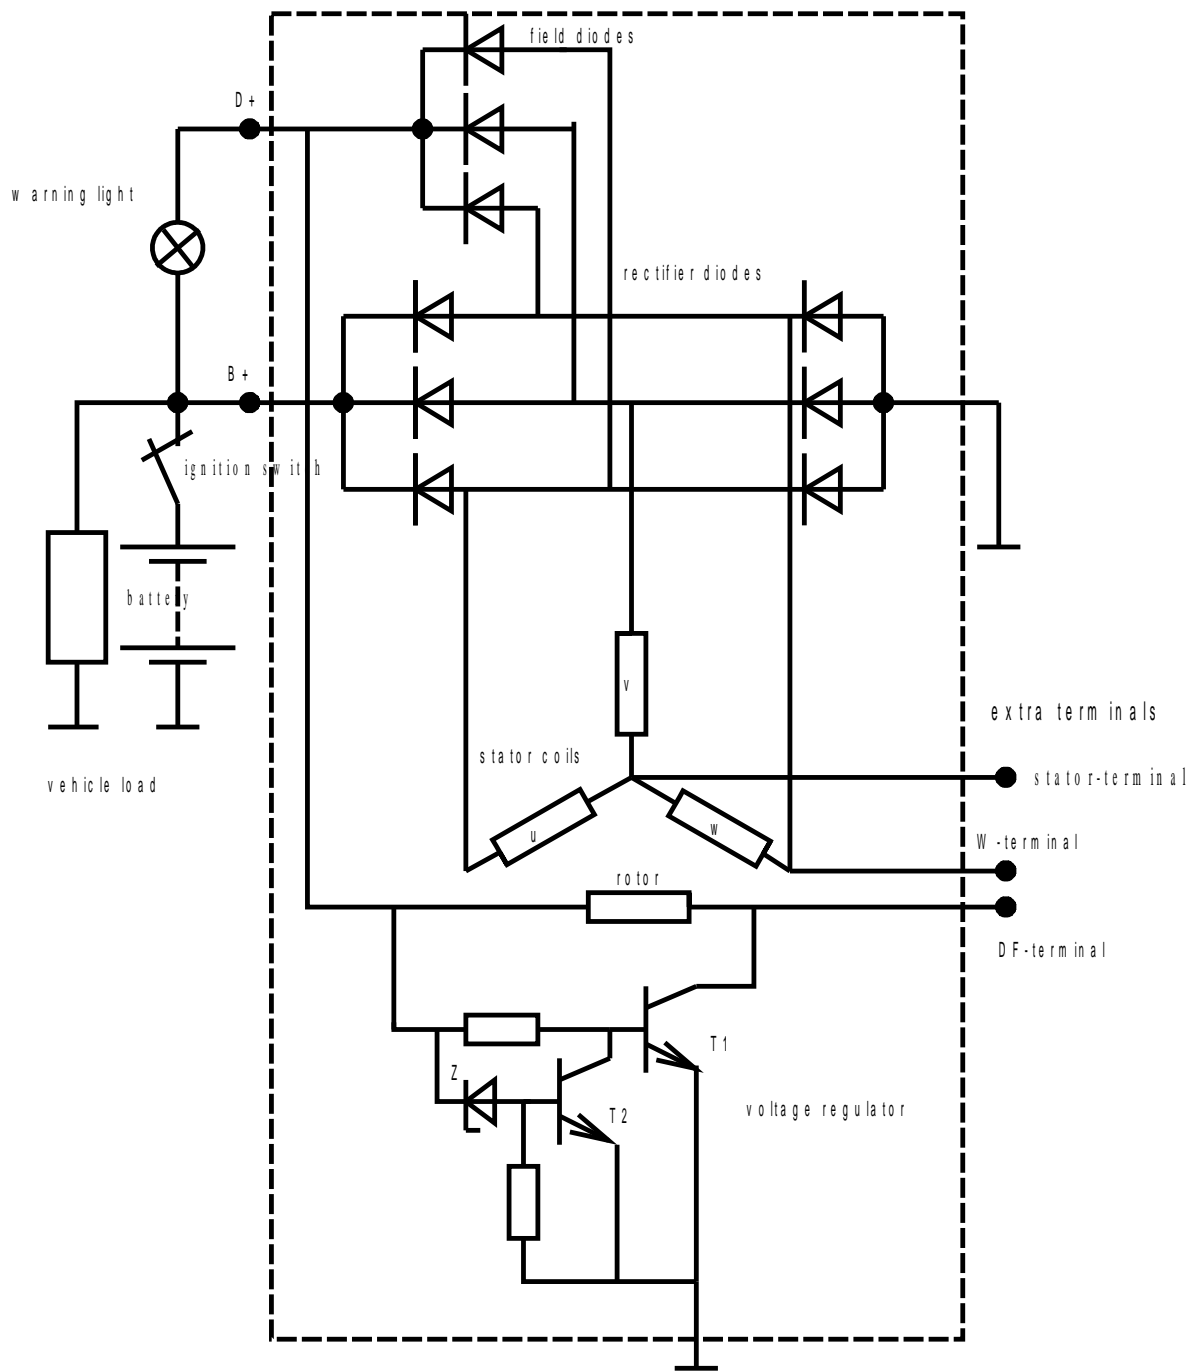

Fig. 2 Universal charging circuit diagram. Alternator with built-in electronic voltage regulator.
1. Using your demonstration car, check to see which terminals the alternator has. Use the demonstration car's electrical diagram to draw the charging circuit. Make sure you understand the circuit and can explain it. The diagram in figure 2 may help.